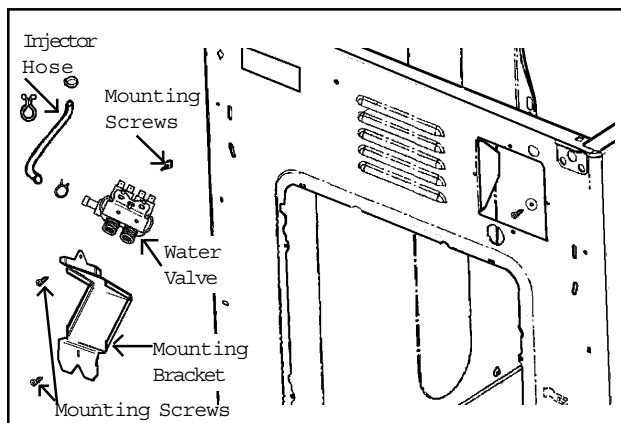

Figure 6-1
3. Remove the two 1/4" hex head screws securing the water valve bracket to the cabinet (*Figure 6-1*).